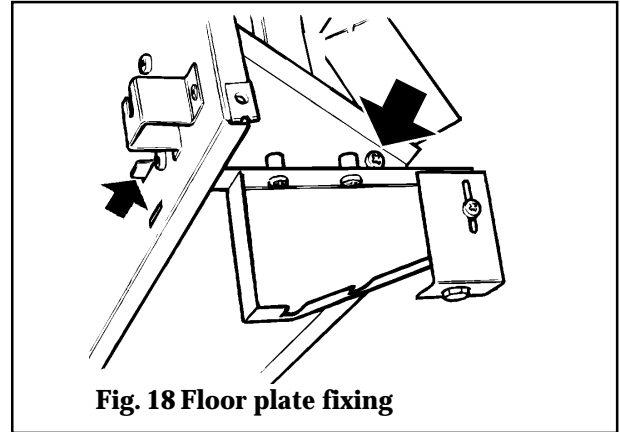

Fig. 18 Floor plate fixing
- 8.7.2.** Detach the plate by unscrewing two screws securing it to the side feet and pulling clear (see fig.18).
- 8.7.3.** Replace in the reverse order. When refitting the floor plate, make sure that the rear tabs locate through the upper pair of slots in the back panel (see fig.18).